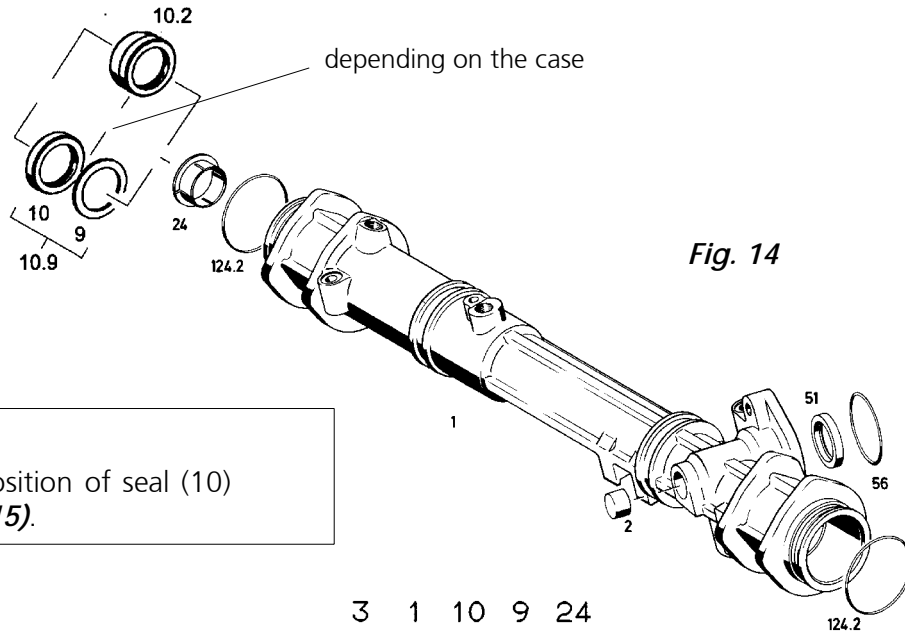

Fig. 14
Put the bearing bush (24), the washer (9) and the seals (10, 10.2 and 10.9) on tool (8) and press them into the housing (1). Fit the O-rings (124.2 and 56) to the housing (1) (**Fig. 14**).